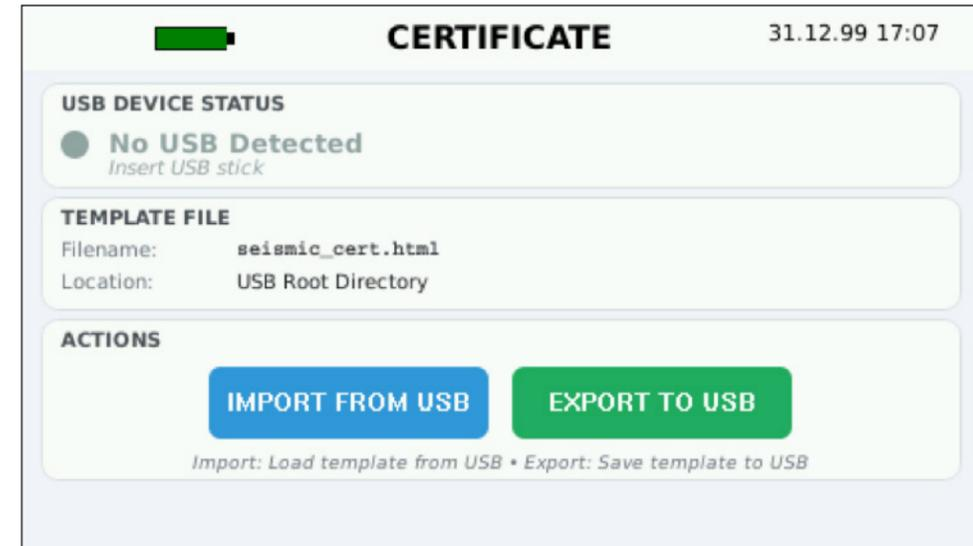

Figure 31
2. On the Certificate Import/Export screen (Figure 31), you can check the connection status of a USB flash drive, see the file name of the current certificate template, import a certificate template from USB, or export (save) a template file to USB: